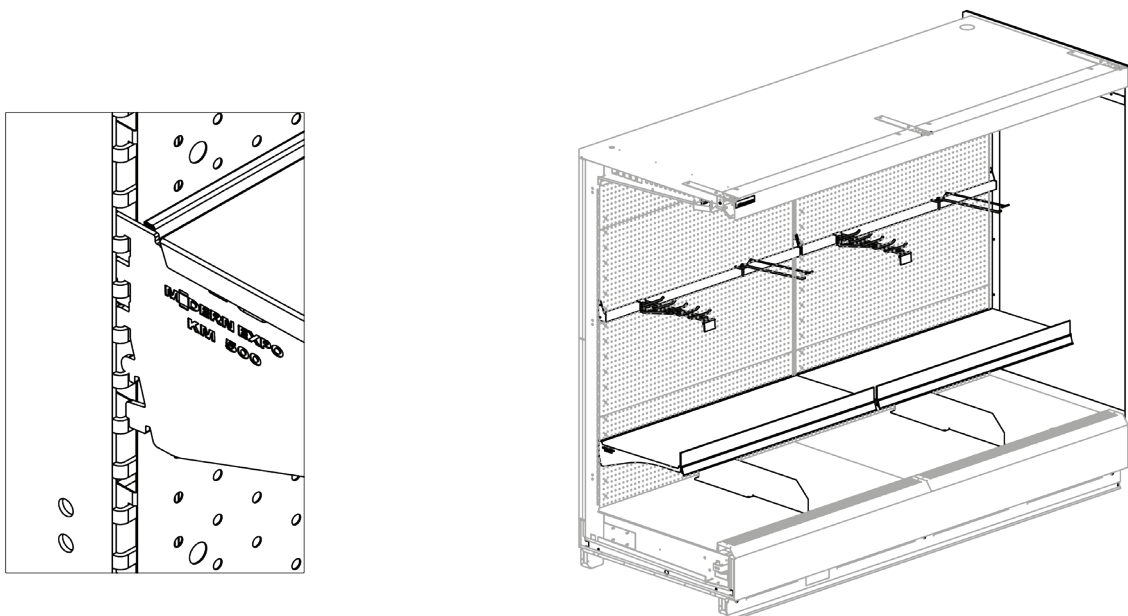

Fig. 21. Installing shelves and accessories
• **install shelves and accessories (Fig. 21).**